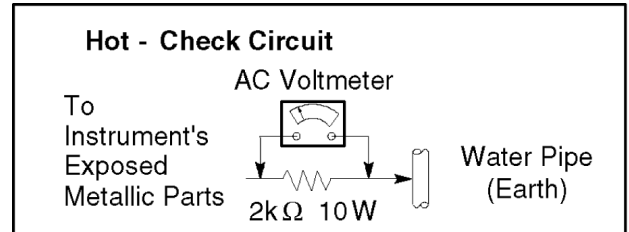

Fig. 3
4. Check each exposed metallic part, and measure the voltage at each point. Fig. 3.
1. Receive a 3.58 MHz NTSC rainbow pattern 2. Connect oscilloscope to A21 pin 6. 3. Set controls: BRT.....CENTER COLOUR.....CENTER CONTRAST.....MAX NTSC TINT.....CENTER AI.....OFF	1. Adjust Sub NTSC Tint so that the peak of level of waveform is similar to Fig. 3 2. Receive the Rainbow pattern (3.58 MHz NTSC) on both of Main and Sub pictures. 3. Adjust Sub NTSC Tint 2 so that the peak of level of $1.3 \pm 0.5V$